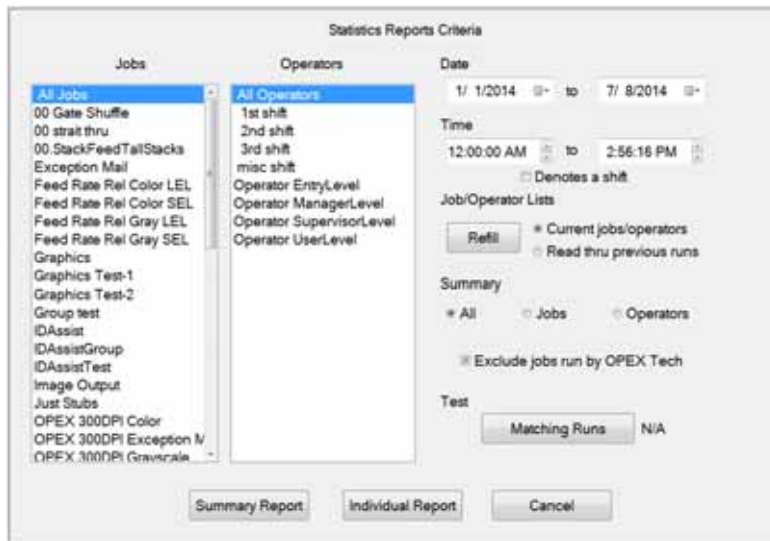

Figure 24: Statistics Report Criteria Screen
- 2 In the Statistics Reports Criteria window, set the parameters for the report as shown in Figure 24:
- Date - set the start and end date for the report. In Figure 24, the Summary report was run for a single day, but virtually any range can be selected.
- Time - set the start and end time for the report. In Figure 24, these parameters were set to include the 3rd shift (12:00 AM-8:00 AM) and the first shift (8:00 AM to 4:00 PM).